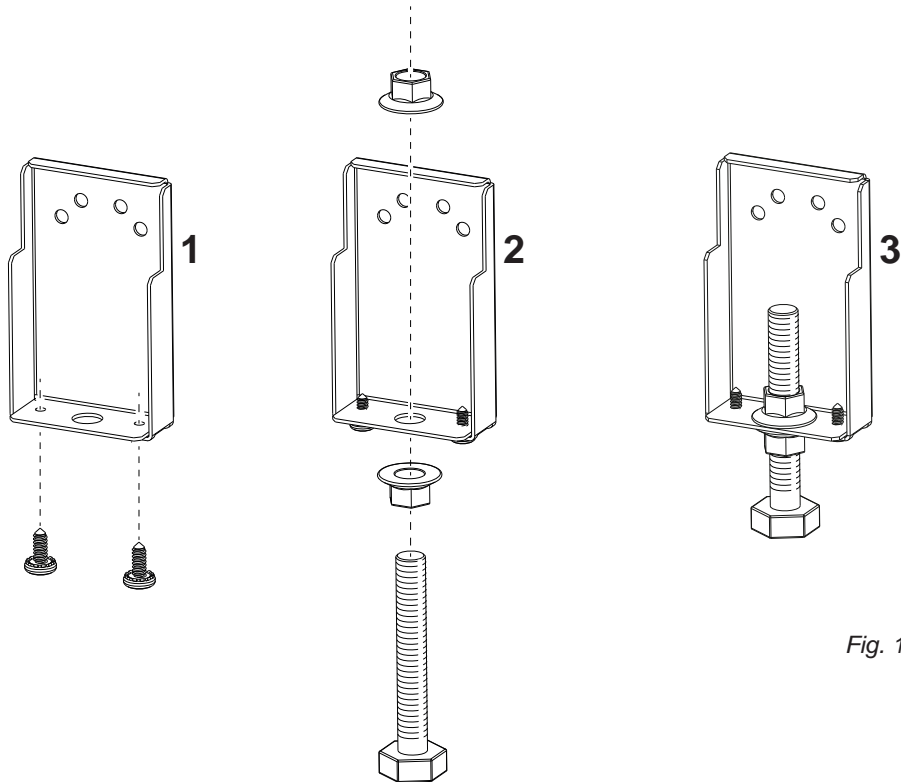

Fig. 1.9
1. Fix the two supplied short screws to the left and right side of the anti-tip bracket (fig. 1.9).
2. Thread the bolt through the adjustable bracket and fix in place using the two supplied nuts (fig. 1.9). Ensure the nuts are well tightened.